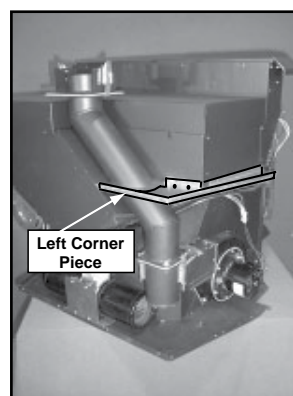

Figure 18.4
4. Install the left shroud panel corner at 3 points, 2 screws into back of hopper and 1 down into the filler piece). **Figure 18.4**